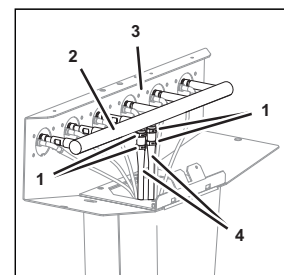

Fig. 39
1. Remove the clamps (Fig. 39/1) used to attach the tubes (Fig. 39/4) to the soda dispenser (Fig. 39/2).
2. Lift and remove the soda dispenser (Fig. 39/2) from the dispensing valve support (Fig. 39/3) and from the unit.
3. Position the new soda dispenser (Fig. 39/2) within the dispensing valve support (Fig. 39/3) and the unit.
4. Attach the tubes (Fig. 39/4) to the soda dispenser (Fig. 39/2) using the clamps (Fig. 39/1).